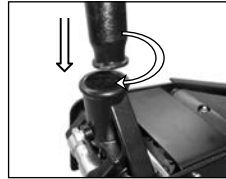

fig 3.
3. Slide the handle assembly into the handle base [4]. The handle assembly will be required to be slowly twisted for the hex shaped drive of the release valve to engaged into the handle assembly slot (fig.3).